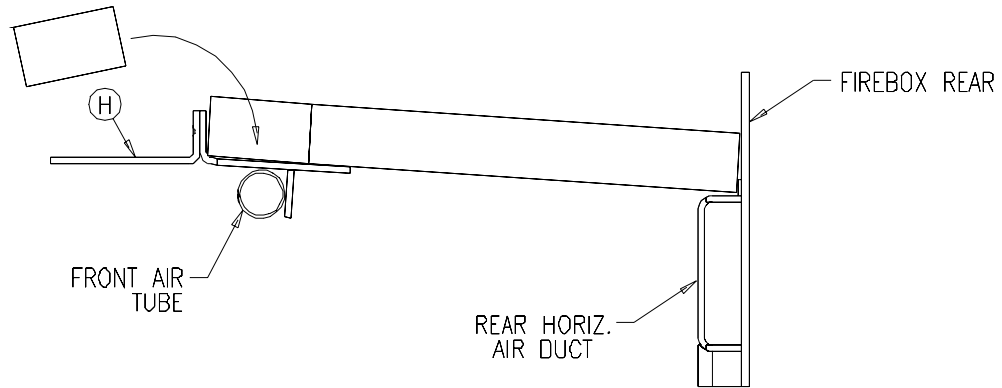

Figure 3.2e
- Starting with the sliding bricks under baffle board first, install the four full bricks (1.25 x 4.50 x 9.00) by positioning the brick(s) under the baffle support assembly (H). Lift the front of the brick over the support and move it forward, then lift the back of the brick up and onto the rear horizontal air duct (see figures 3.2c and 3.2d). The front of the bricks should then rest on the back of the support assembly (see fig.3.2e).